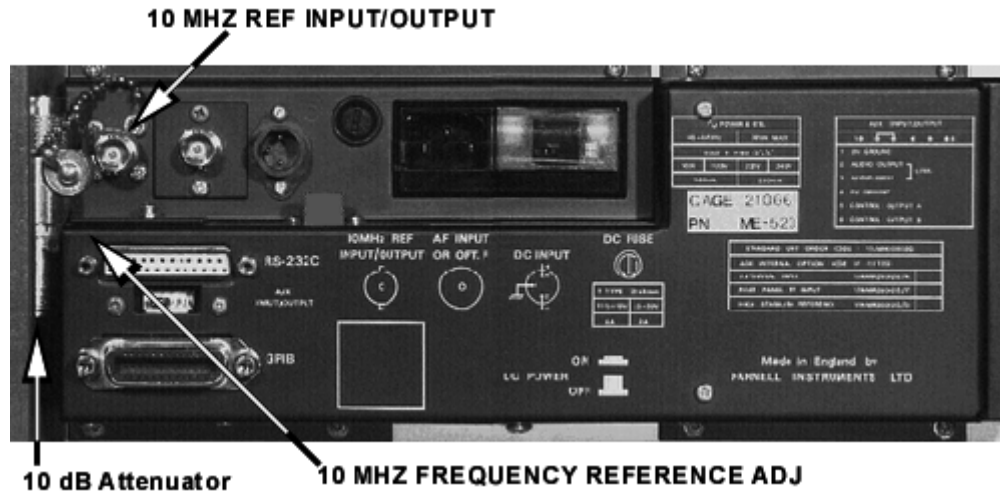

Figure 1. Rear panel.
(1) Connect frequency counter **A** input to **TI 10 MHz REF INPUT/OUTPUT** (fig. 1), located on rear panel, using **TI 10 dB ATTENUATOR** (fig. 1).
(2) Frequency counter indication will be  $10 \text{ MHz} \pm 10 \text{ Hz}$ ; if not, perform **b** below.
**b. Adjustments.** After a 2 hour warm-up, adjust **TI 10 MHz FREQUENCY REFERENCE ADJ** (fig. 1) for  $\pm 3 \text{ Hz}$ . Wait 24 hours and verify TI is within  $\pm 3 \text{ Hz}$ .